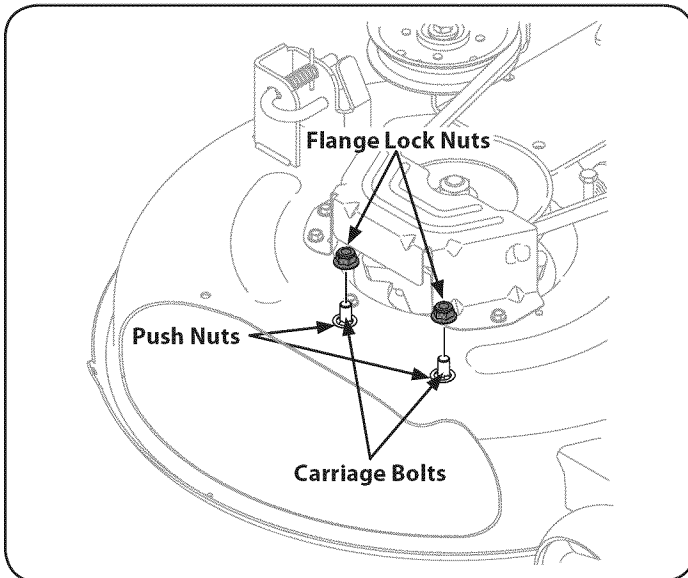

Figure 6
2. Remove the flange lock nuts from the deck. Do not remove the push nuts or carriage bolts; leaving them in place will aid in installing the chute. See Figure 6.